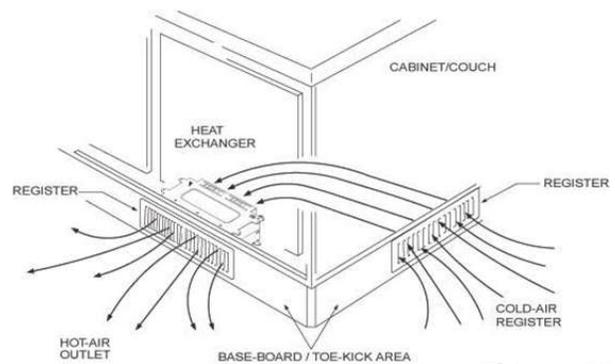

Figure 128
- Heat exchangers should be mounted as close to the hot air outlet grill as possible (reference Figure 128)